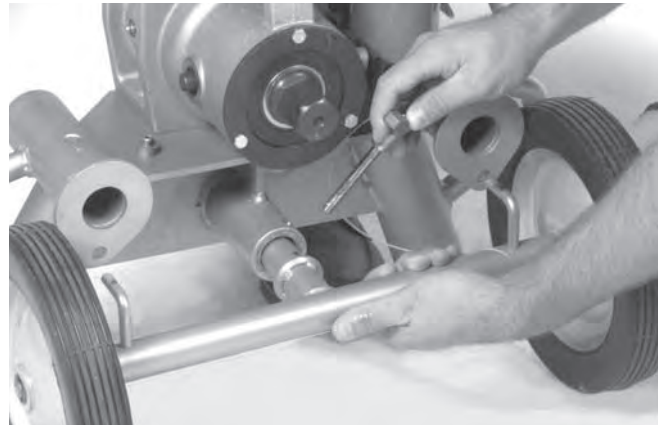

Figure 3 – Removing Transport Cart
1. To remove the groover from the No. 32 Transport Cart, remove pin and slide the cart from the base (Figure 3).